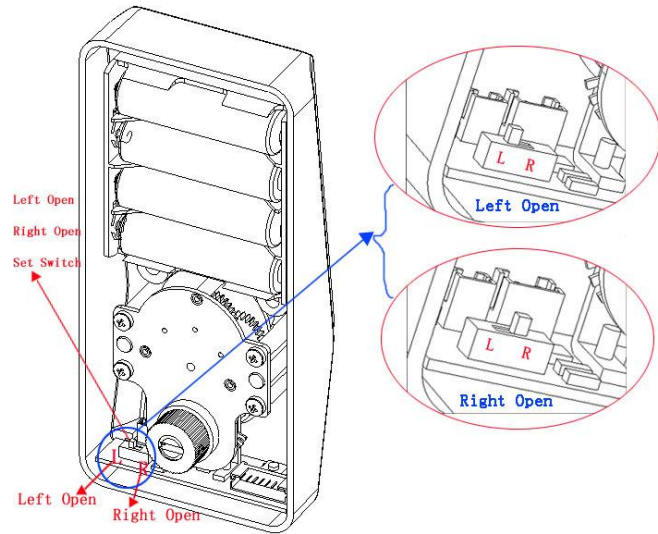

Figure 3
(3). To set the deadbolt as "Left Open" or "Right Open" on the Rear panel Assembly, reference **Figure 3**:
As shown in **Figure 3**, there is a "Left open/Right Open" set switch on the rear panel assembly of the deadbolt. Note the user can turn the switch to the left side (L) to set the door's opening direction as "Left Open"; or turn the switch to the right side (R) to set the door's opening direction as "Right Open".